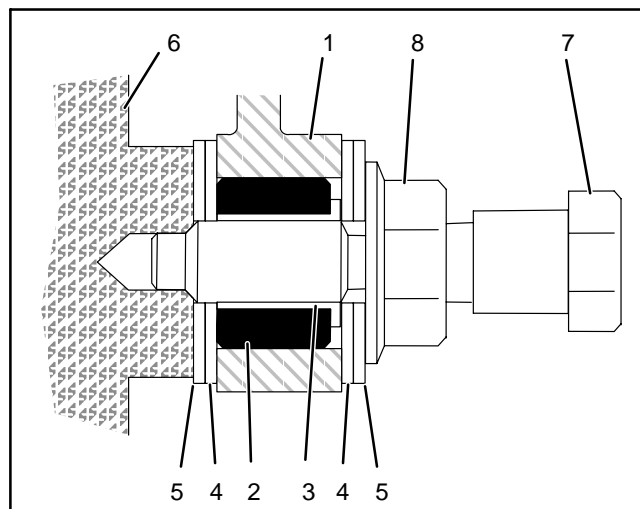

Figure 13
1. If either rubber bushing (2) was removed from the side plate, install a new bushing. The bushing should be installed flush with the inside of the side plate (Fig. 13).
2. Install the flange bushings (3) with flange facing outward.
3. Thread the flange nuts (8) all the way up to the head of each bedbar pivot bolt (7) and apply antiseize lubricant to the threads of each bedbar pivot bolt (7).
4. Slide one metal washer (5) and one plastic washer (4) onto each bedbar pivot bolt. The metal washer (5) must contact the flange nut (8) (Fig. 13).
5. Position bedbar (6) into cutting unit. Slide the top of the bedbar arms between washers on each adjuster assembly.
6. Position one metal washer (5) and one plastic washer (4) between bedbar and each side plate. The metal washer (5) must contact the bedbar (Fig. 13).
8. Tighten both flange nuts (8) to remove end play at the outer washers. Do not over tighten the flange nuts or distort the side plates.
9. Tighten the lock nut (15) on each bedbar adjuster assembly until the adjuster spring is fully compressed, then loosen lock nut 1/2 turn.